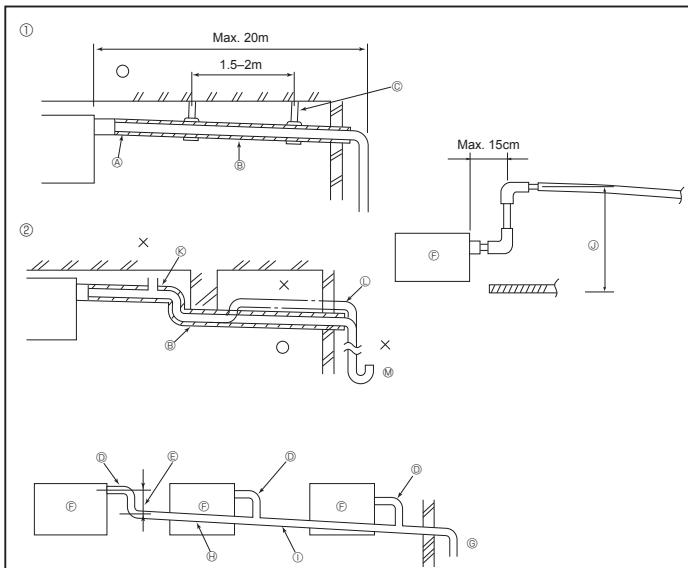

Fig. 3-1
3.1. Drainage piping work (Fig. 3-1)
- ① Correct piping
② Wrong piping
③ Insulation (9 mm or more)
④ Downward slope (1/100 or more)
⑤ Support metal
⑥ Air bleeder